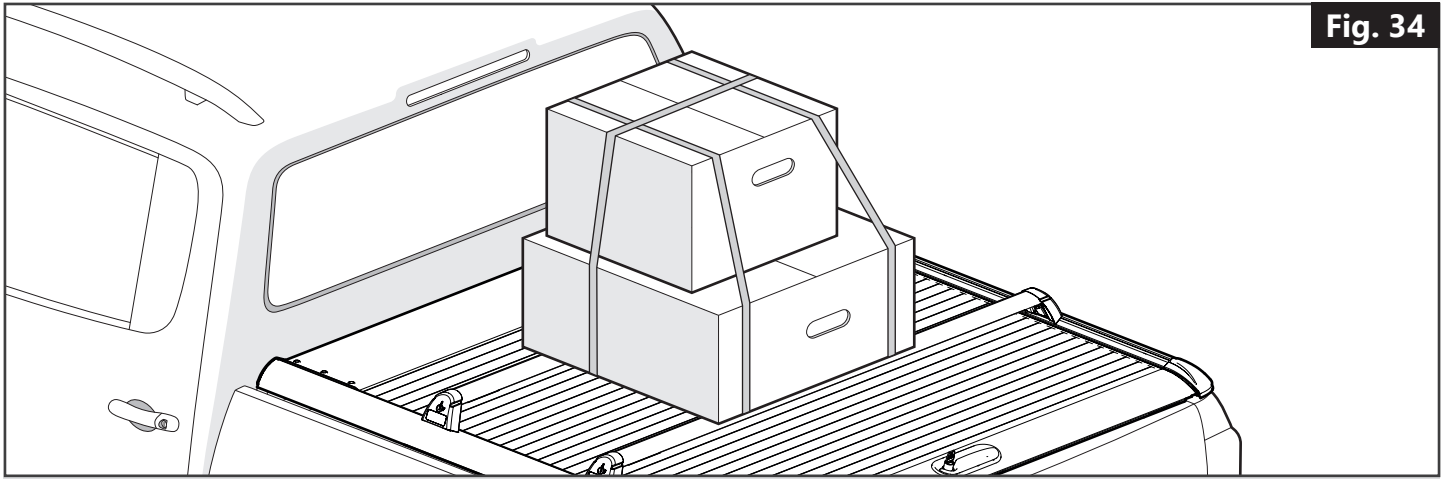

Fig. 34
- Combined load capacity of 75 Kg (including bars) (*Fig. 34*)